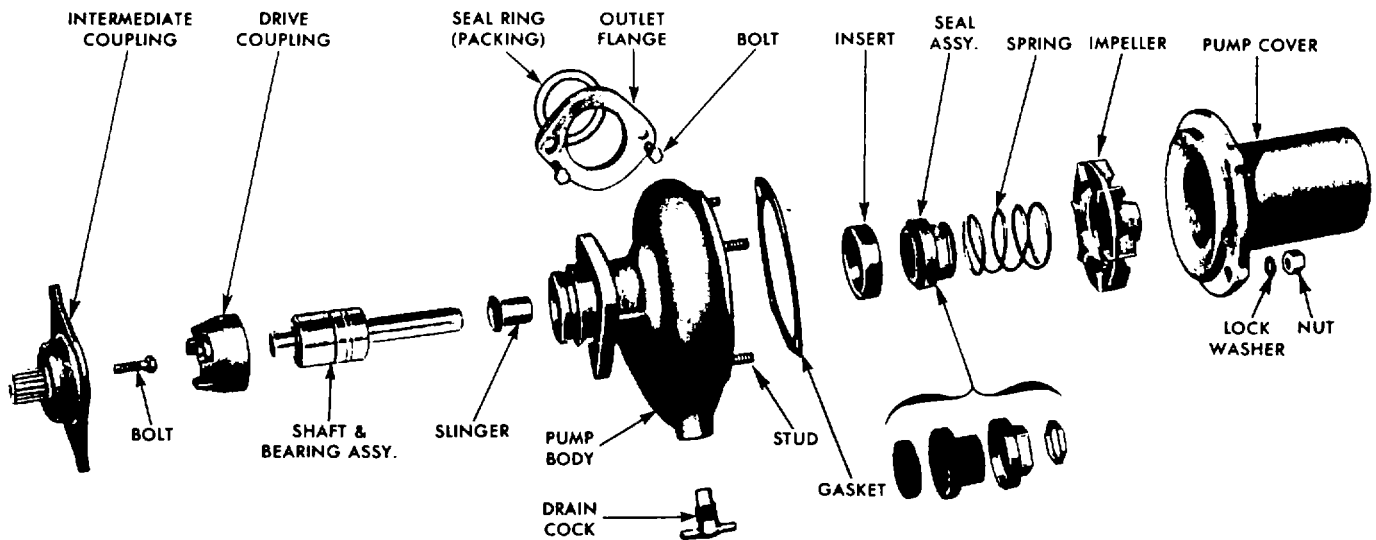

Figure 5-22. Water Pump Disassembly and Reassembly.
- c. Refer to Figure 5-22 and remove pump cover and gasket. Discard gasket.